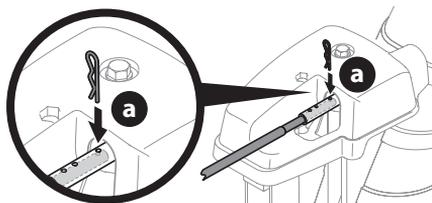

Figure 70
1. Remove cotter pin (a) from either of the holes furthest from the chute assembly on chute control head (Figure 70).
2. Push in chute control rod until the hole in it lines up with the third hole in chute control head (Figure 70).
3. Reinsert cotter pin (a) through this hole and chute control rod (Figure 70).